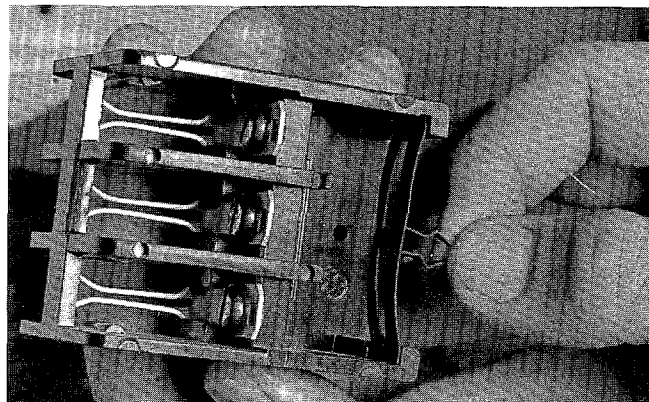

Fig. 34. Position snap dart clip to retain terminal block
3. If draw-out terminal blocks are furnished with the unit, install the fixed half of all draw-out blocks in the intended unit space in the section. Figures 34 and 35 show details of mounting. Location of these blocks is determined by alignment with the terminal blocks mounted on the right side of the starter unit. Insert slotted mounting tabs under screw heads (A). Snap dart clip (B) into hole (C), to retain terminal block in proper position. Tighten screws (A). Power blocks to be mounted in the section are furnished with a box-type lug and are normally to be mounted below control blocks.